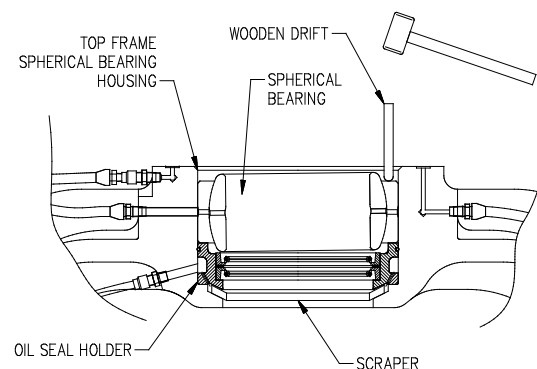

Fig. 6.4.5
4. After fitting the spherical bearing, use a wooden drift and a hammer and strike the outer ring of the bearing to ensure that the bearing is properly seated in the housing. (Fig. 6.4.5)